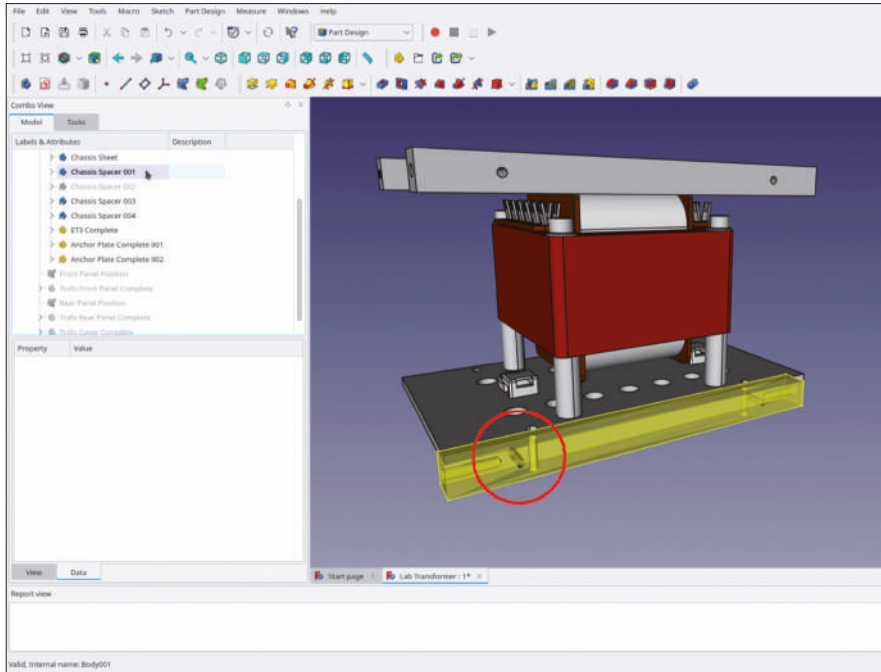

Figure 9-132
40. When you hover over 'Chassis Spacer 001' in the tree view, the 3D view updates with a highlighted, transparent representation of the spacer. With this view, you can quickly check whether any of the holes collide with each other (Figure 9-132).